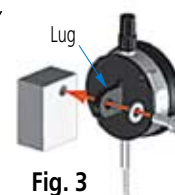

Fig. 3
3. Clamp the lug so that the spindle is square to the measuring face. (**Fig. 3**)